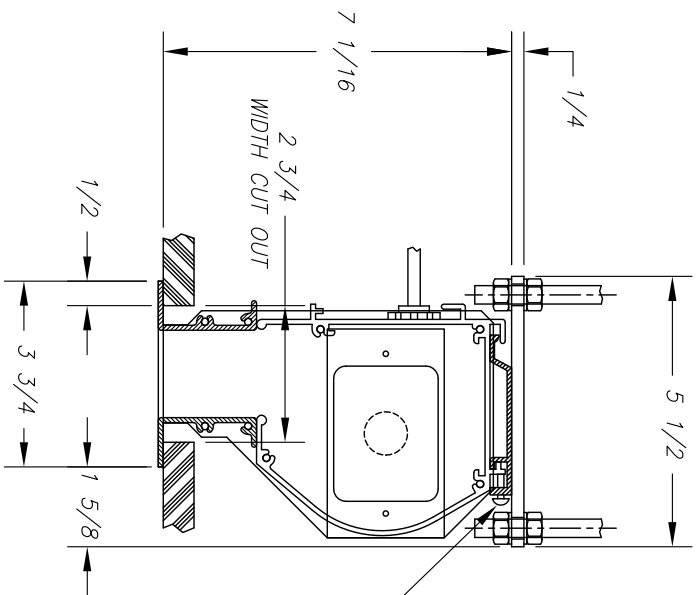

FIGURE 1
- 1 - REFERRING TO FIGURE 1 OF STEP 2, DETERMINE CEILING CUT OUT HOLE.